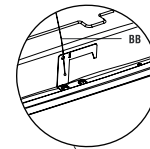

Figure 3
- Insert open end of the steel wire (BB) through the hole in the tab until the front side of the steel wire is locked by the small hole in the tab. (See Figure 3)